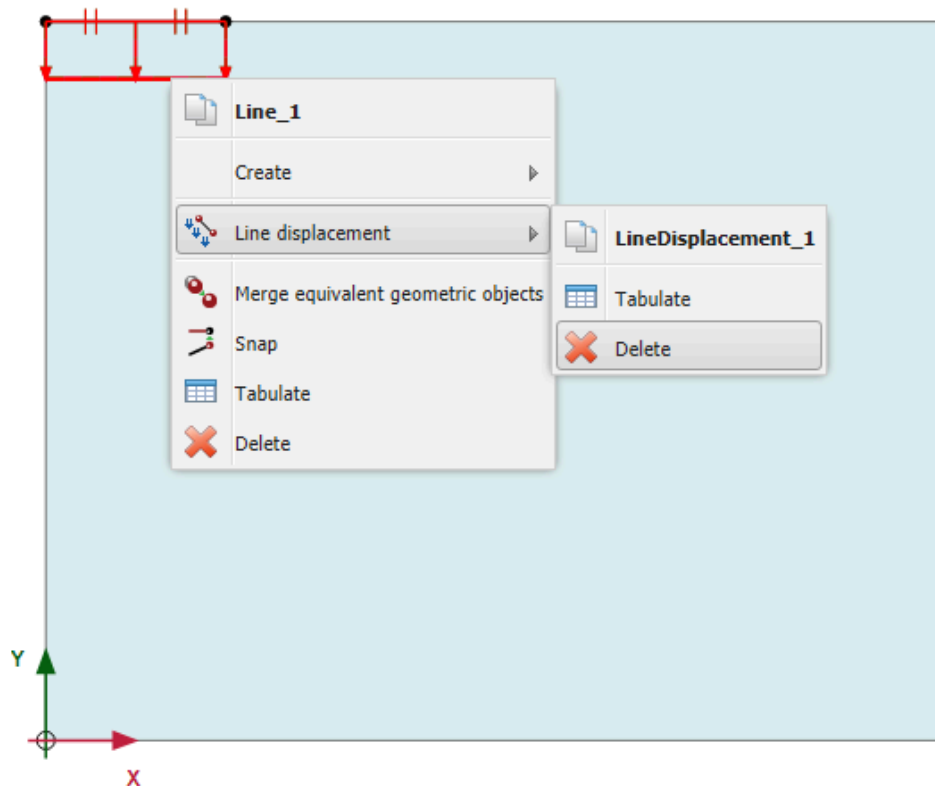

Figure 1-21: Delete the line displacement option
- 3 Right-click the prescribed displacement and select **Line displacement > Delete** as shown in Figure 1-21 \(p. 31\).